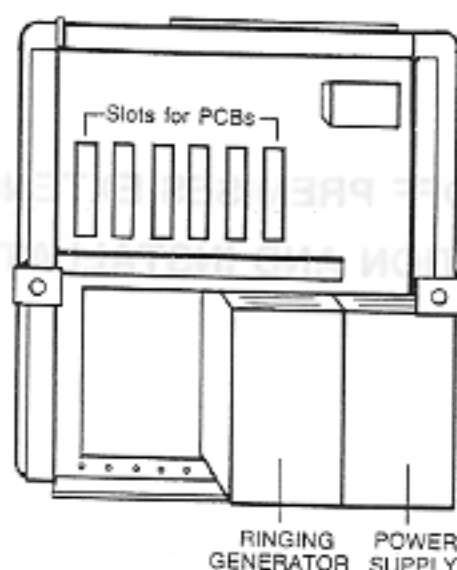
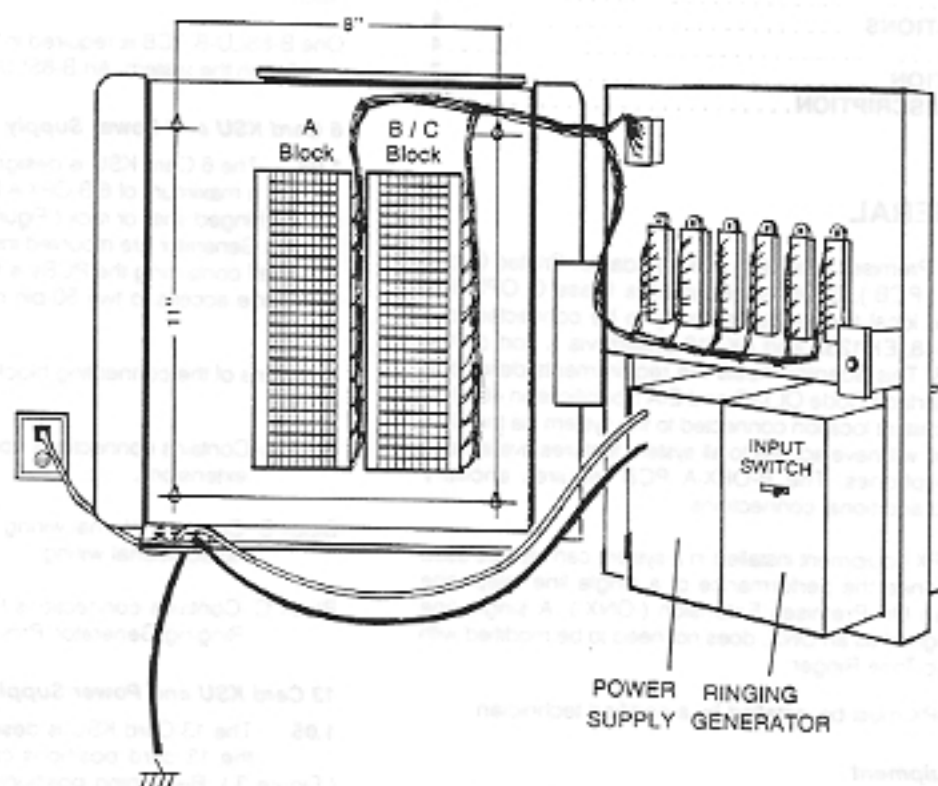

Figure 1 6 CARD KSU OUTSIDE VIEW
Figure 2 6 CARD KSU WITH HINGED SHELF OPENED
**1.04** The 6 Card KSU is designed for wall mounting and holds a maximum of 6 B-OPX-A PCBs. These boards are inserted into the hinged shelf or rack ( Figure 1 ). The 48V Power Supply and Ringing Generator are mounted inside the KSU cabinet ( Figure 2 ). The shelf containing the PCBs is hinged so that it can be opened to provide access to two 50-pin connecting blocks. One block is split.